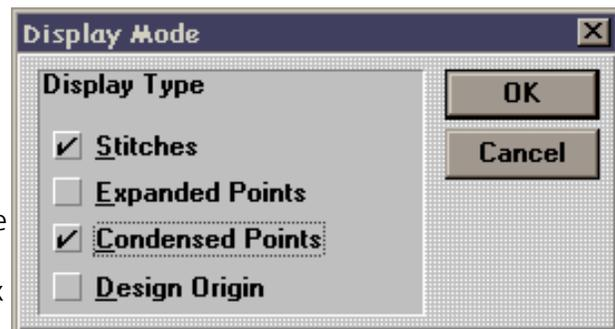

Figure 5-8
3. Inside the Display Mode dialog box, click on Condensed Points to place a check mark in the box (see Figure 5-8). You should also see that there is a check mark in the Stitches check box by default.